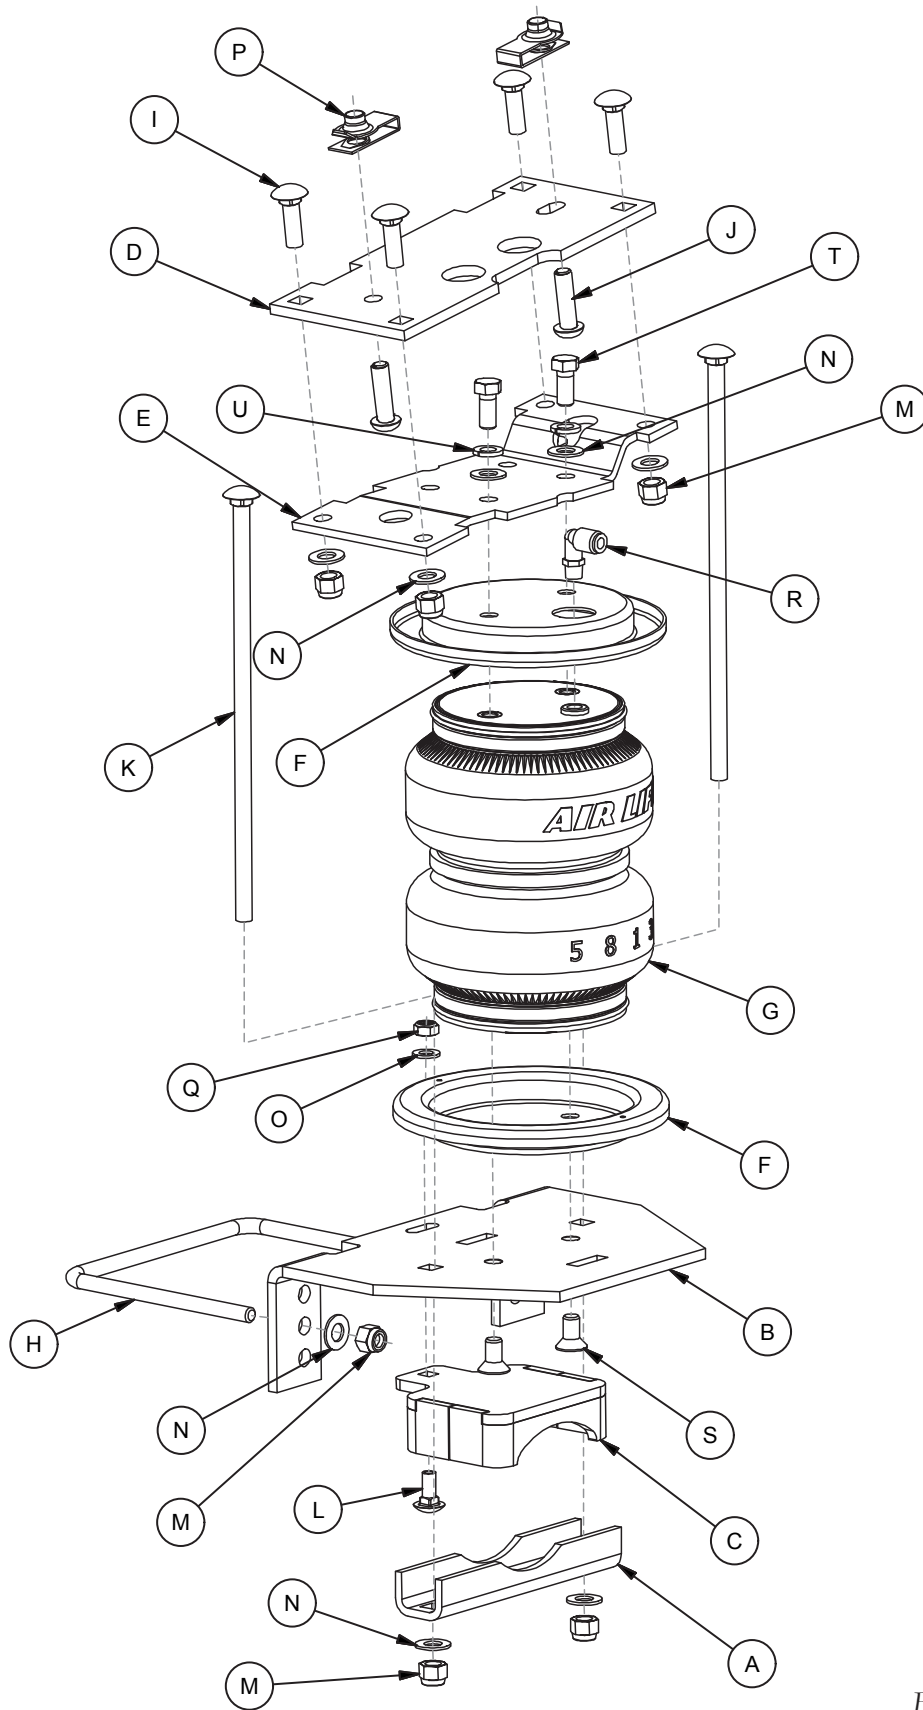

Fig. 1
* not pictured in the System Overview (Fig. 1)